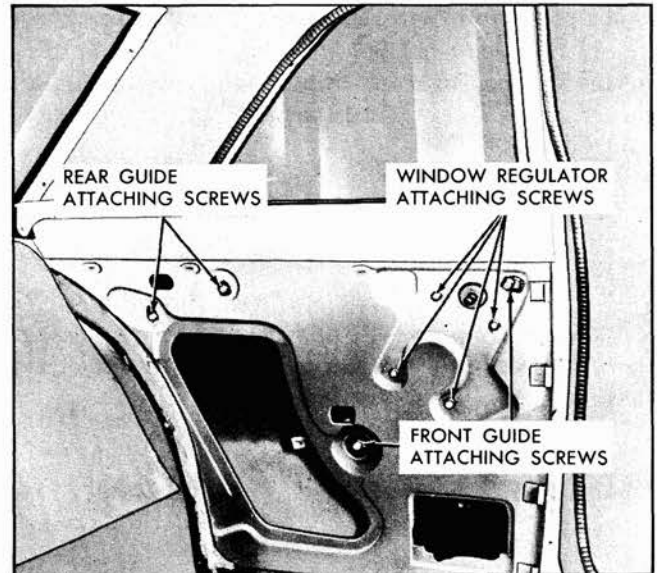

Fig. 14-3 Rear Quarter Hardware
2. Remove (2) most rearward screws from rear section of door sill plate. Disengage pinchweld finishing strip from beneath door sill plate and pinchweld flange to a point above belt line (Fig. 14-3).
2. With window in "up" position remove rear quarter window rear guide attaching screws (Fig. 14-3) and remove rear guide.
To adjust rear quarter window, remove rear quarter trim assembly. Loosen both front and rear guide attaching screws (Fig. 14-3). Operate window to full "up" position, making sure window is all the way forward and up into the run channels. Install wrench on front guide upper attaching screw and tighten screw while forcing screw and guide as far forward as possible. Repeat procedure on lower attaching screw. Install wrench to forward attaching screw of rear guide and tighten screw while forcing screw and guide as far upward as possible. Lower window to full "down" position and tighten rear attaching screw.
2. Loosen rear quarter window front guide upper attaching bolt. Remove window regulator attaching bolts (Fig. 14-3) and remove regulator through access hole.
2. Remove rear quarter window front guide attaching bolts (Fig. 14-3). Disengage guide from roller on window lower sash channel and remove guide through access hole.
2. Remove rear quarter window rear guide attaching bolts (Fig. 14-3). Disengage guide from roller on window lower sash channel cam and remove guide through access hole.